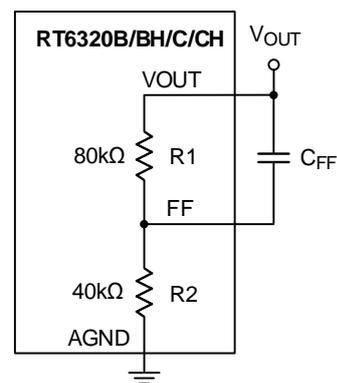
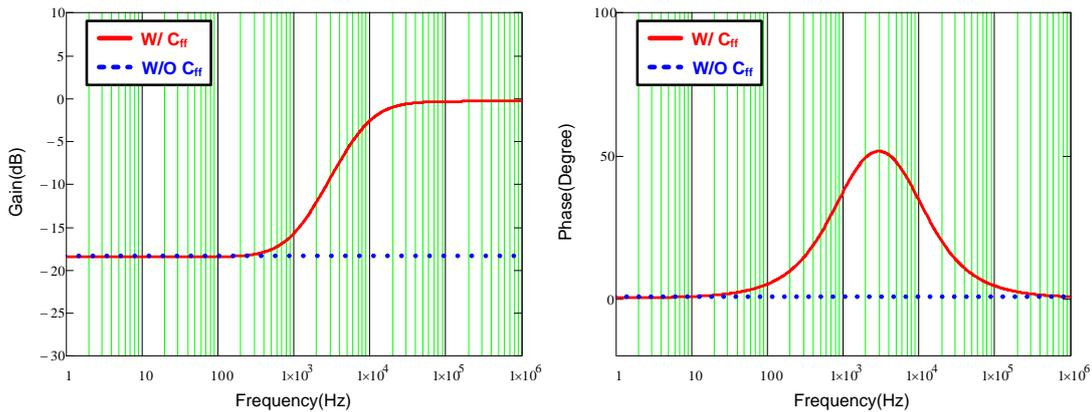

Figure 14. RT6320B/BH/C/CH Feedback Loop with Feedforward Capacitor
Figure 15. Bode Plot with Different Feedback Loop Conditions
To save time for compensator design and to reduce the layout area through external components, the components of compensator are integrated in the IC. However, this integrated compensator might not be suitable for every load transient specification. Hence, to make RT6320 more adaptable, the feedforward capacitor CFF is used in the feedback loop to improve transient response, as shown in Figure 14. Figure 15 shows the comparison result of bode plot with different feedback loop conditions. Referring to Figure 15, through connecting a CFF in feedback network, the gain and phase are raised in mid-frequency, which not only extends the bandwidth, but also boosts the phase margin. Moreover, there is also a high frequency pole to eliminate high frequency noise. Consequently, those features of feedforward feedback network allow the RT6320 to have faster response to different load transients.
According to Figure 15, the maximum phase boost that occurs between zero and pole frequencies is defined as maximum phase boost frequency, as expressed in equation (4). Hence, in order to achieve the maximum phase boost by adding C_{FF} in the RT6320, the system's original bandwidth has to be located at maximum phase boost frequency.